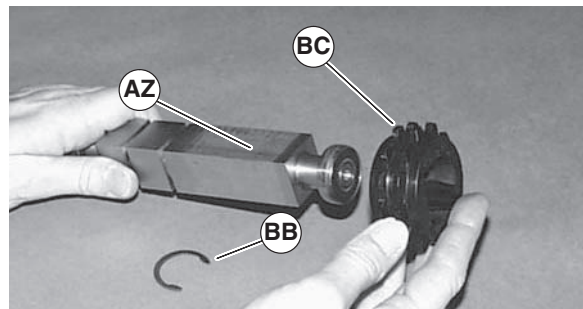

Figure 35
3. Remove snap rings (Figure 35, item BB). Slide drive sprocket (BC) off the end of pulley (AZ).